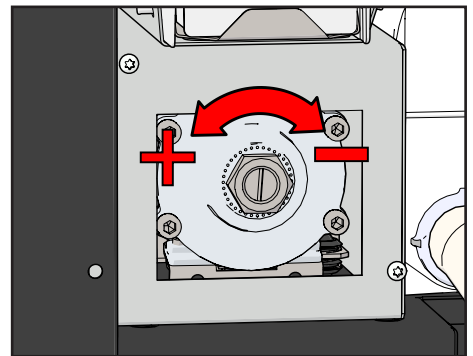

Figure 15.
7. Adjust the grind adjustment bolt counter clockwise for coarser grind, clockwise for finer grind (see Figure 15). Adjustment can be done with a large flat screwdriver and an adjustable wrench. First loosen the nut. Then the bolt can be turned for adjustment.